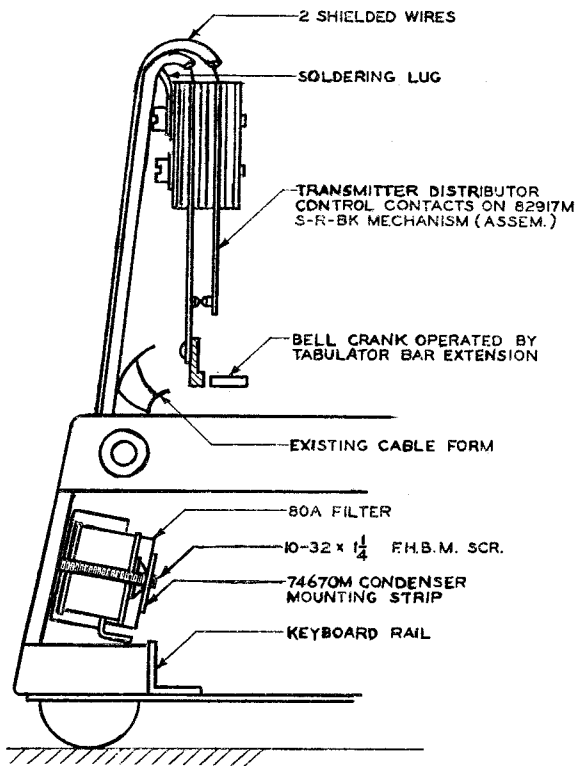
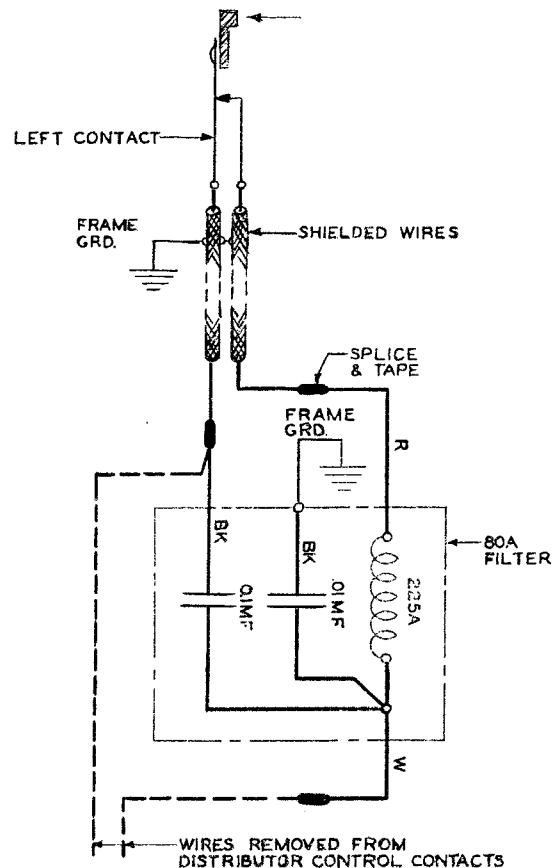

Figure 1
Figure 2
2.04 Mount the 80A filter with the coil toward the front as shown in Figure 1, proceeding as follows:
2.05 Referring to the wiring diagram shown on Figure 2 and to the arrangement of wiring shown on Figure 1, connect the 80A filter as follows:
- (5) Run this lead through the hole in the base casting and connect it to the black lead of the 80A filter which connects to the 312A condenser, shortening the condenser lead to about 1 inch.
- (6) Before soldering and taping the connection made in (5) join this point to the lead in the cable form which formerly connected to the right-hand contact of the distributor start control contact. Solder and tape these leads and form them so as to avoid interference when the keyboard perforator is put in place.
- (7) Remove the left front TP6810 screw and lockwasher which mounts the TP74053 slip connection mounting plate (assembly) and put the No. 10 soldering lug under the lockwasher and the TP6810 screw.
- (8) Connect the wire from the rear of the filter bracket to the lug under the TP6810 screw making the connection as short and direct as practicable.
- (9) Mount a soldering lug under the upper screw which holds the distributor start control contacts pile-up.
- (10) Solder the shields of both leads to the lug mounted in (8).
- (11) Check the connections with Figure 2 and form the wiring as indicated in Figure 1.